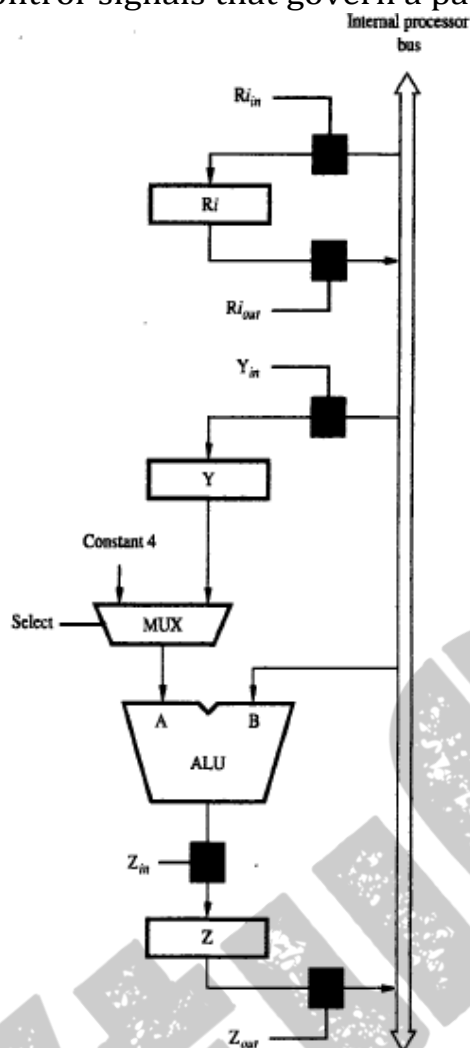

Figure 7.2 Input and output gating for the registers in Figure 7.1.
- 1) Enable the output of registers R1 by setting R1out to 1 (Figure 7.2). This places the contents of R1 on processor-bus.